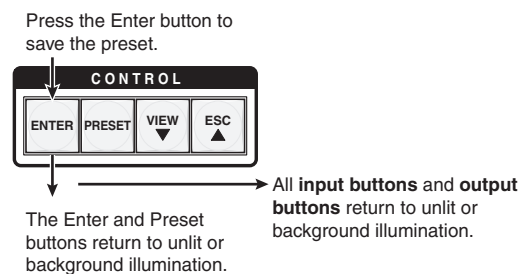

Figure 3-43 — Press the Enter button
4. Press and release the Enter button (figure 3-43). The current configuration is now stored in the selected memory location.